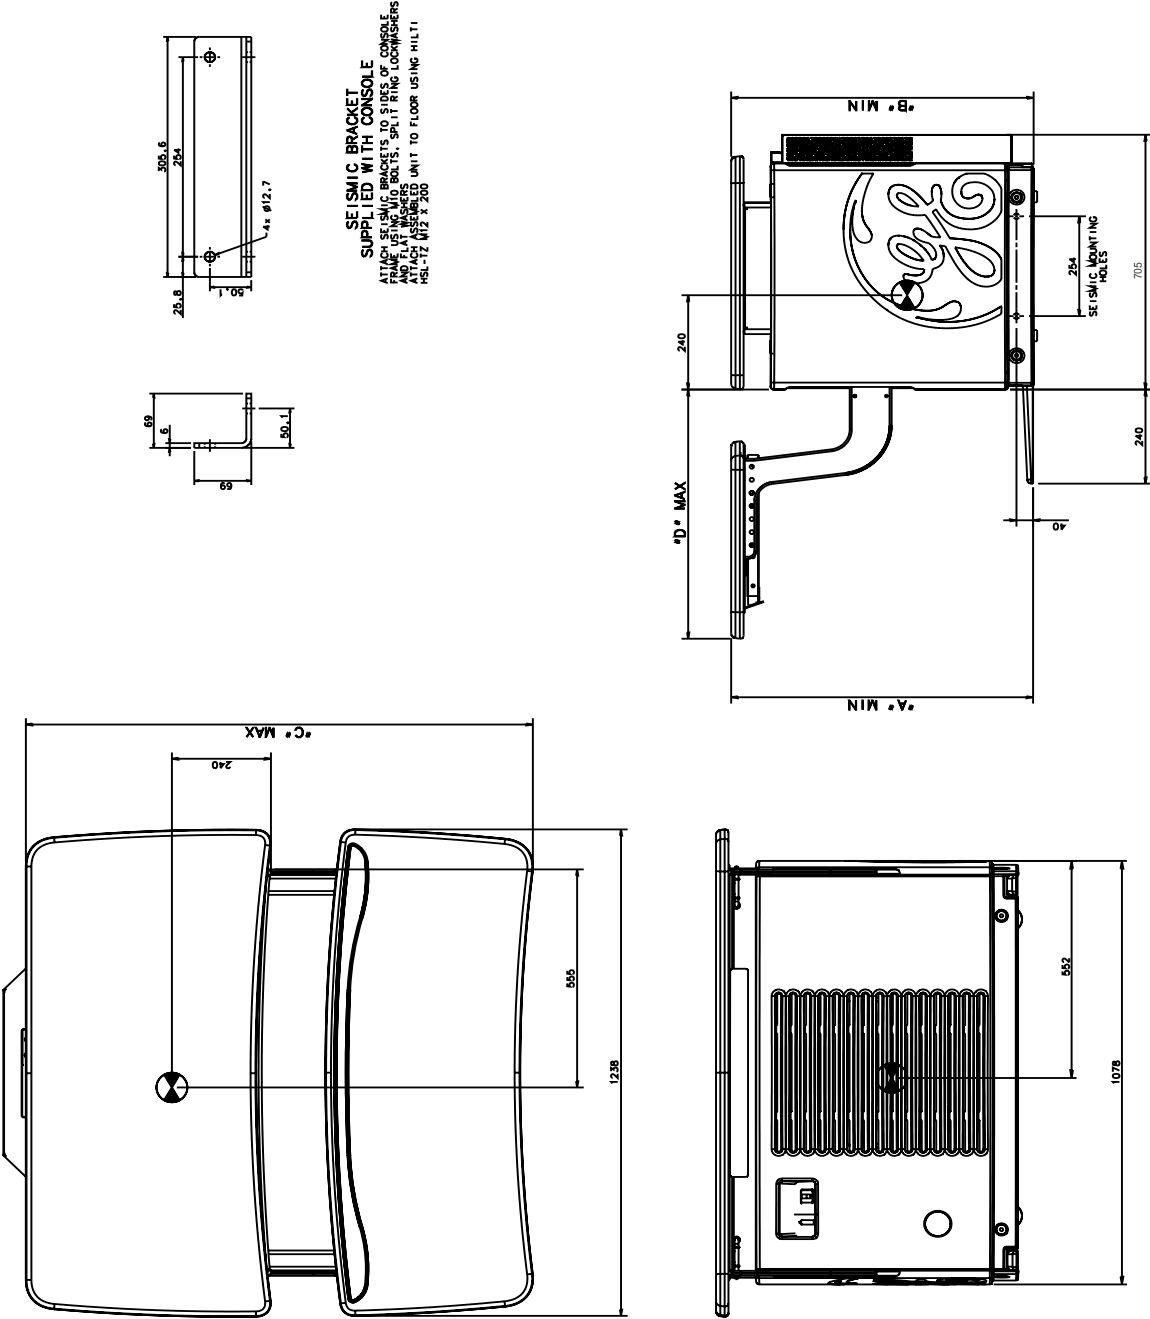
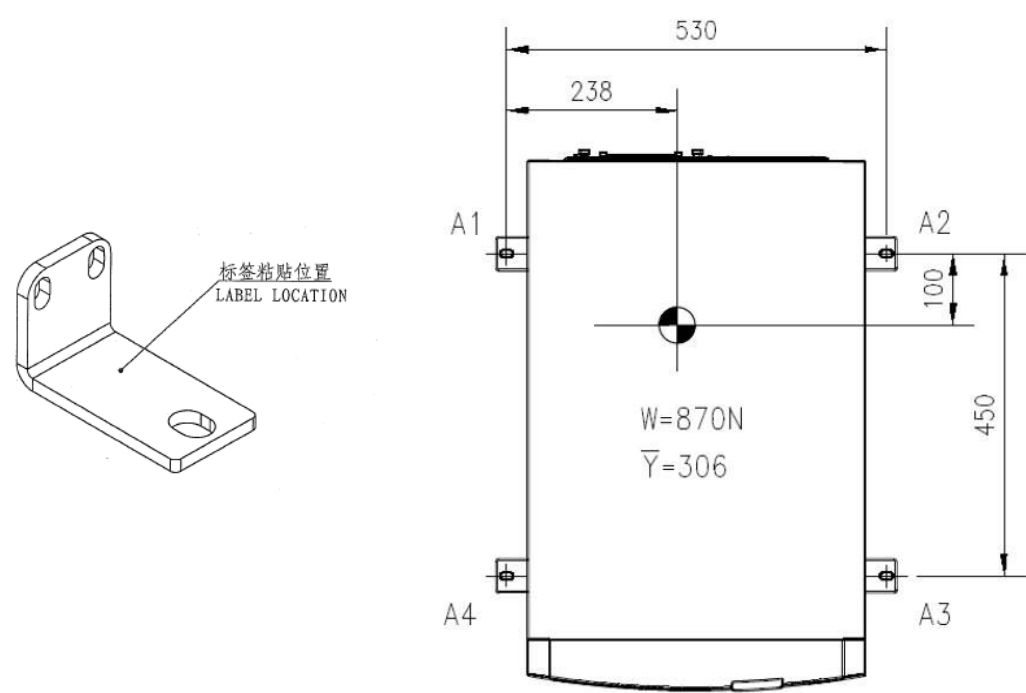

Figure 6-9 GOC4/LCGOC/AIO Operator Console
Figure 6-10 TIO and NIO16 Console Seismic Mounting Hole Position
- Operator's Console/Computer: Figure 6-9, Figure 6-10,